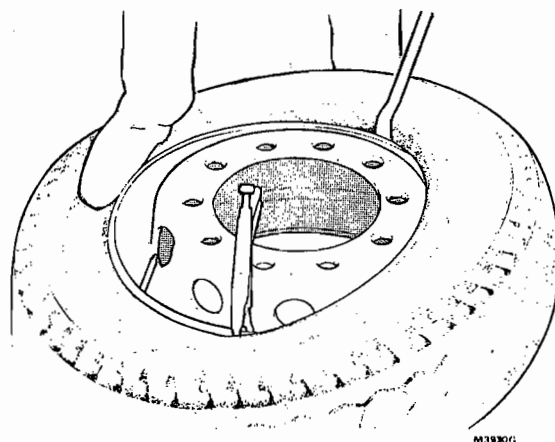

FIG. 7. FITTING SECOND BEAD
5. Apply the vice-grips to the rim to prevent the bead slipping over the flange, Fig. 7.
6. Fit the second bead using the levers working round from one side of the vice grips to the other. Do not attempt to locate a large bead area in one movement. Note the use of the foot to help keep the tyre bead in position, Fig. 7.